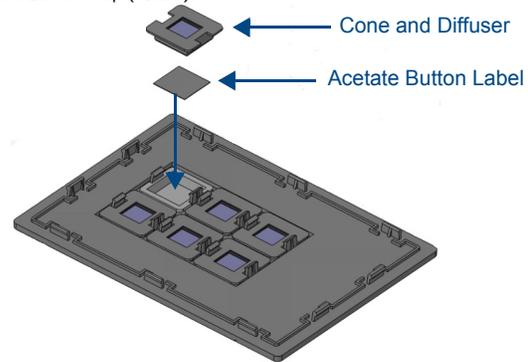

FIG. 1 PLACING A BUTTON LABEL INSIDE A BUTTON CAP
4. Place the Button Cap face-down, and insert the Button Label into the bottom of the Button Cap (FIG. 1).
Orient the Button Label inside the Button Cap so that the two clips are located on the top and bottom sides of the readable text on the Button Label, as indicated in FIG. 1. Be sure to place the Button Label face-down inside the Button Cap, otherwise the label will be seen in reverse.